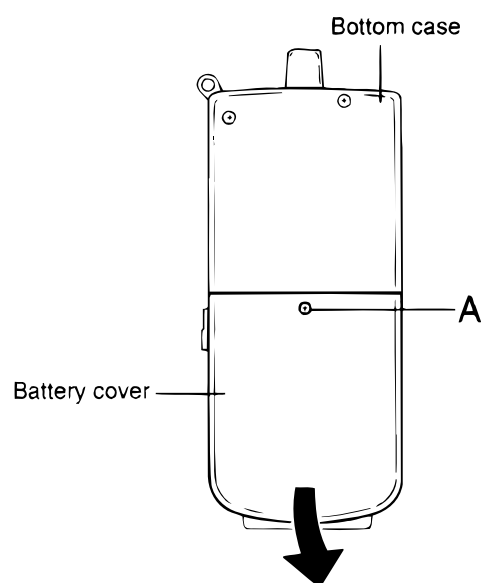

Fig. 2
1. Turn the unit upside down and detach the screw at A fixing the battery cover (Refer to Fig. 2)